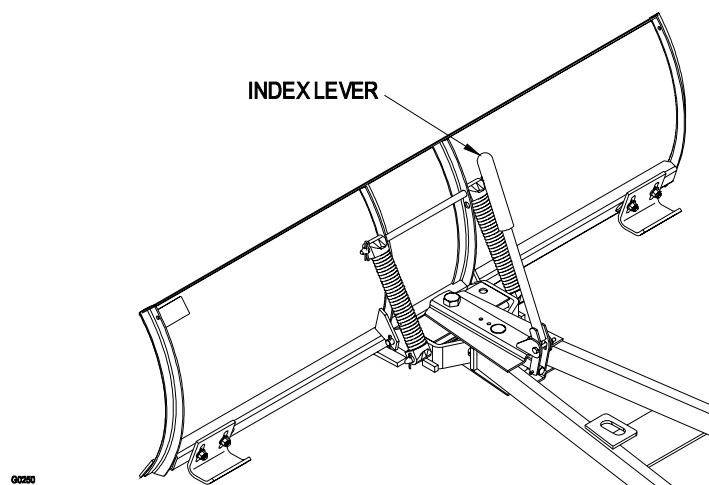

Figure 12
2. Push the index lever forward with one hand (Fig. 12) while positioning the blade with the other hand until you have reached the desired blade angle.